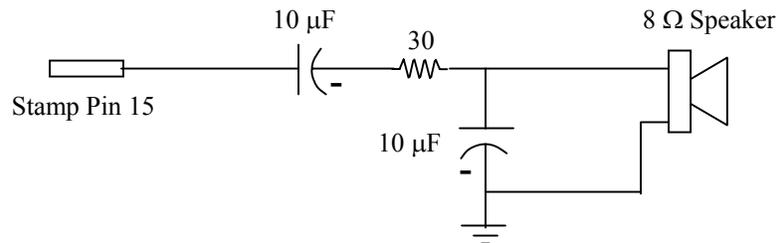

Figure 5 Basic Stamp circuit
8. Build the circuit shown below in Figure 5. Note that the $10\ \mu\text{F}$ capacitors are POLARIZED. If you look at the side of the capacitor body, you will see one leg marked with a minus sign. IT IS EXTREMELY IMPORTANT THAT THE MINUS LEG ALWAYS BE KEPT AT LOWER POTENTIAL THAN THE OTHER LEG! If you reverse the polarity, the capacitor can explode, so take extra precaution and double-check how you wire the capacitors before you apply power to your circuit. Not all capacitors are polarized, but electrolytic ('lytic for short) capacitors are.